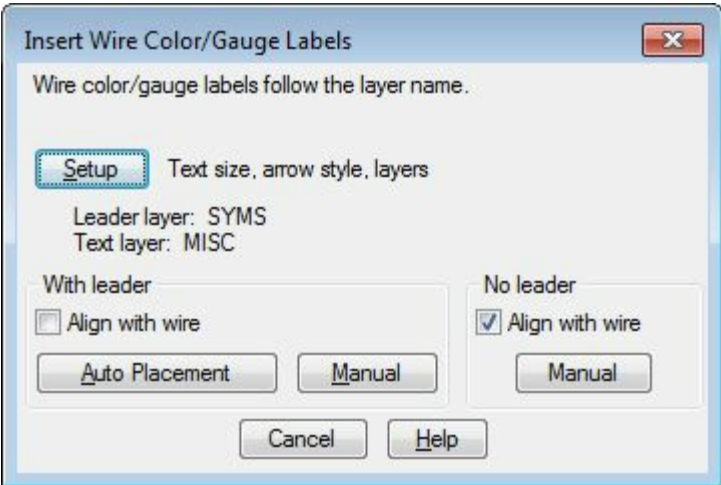

Figure-35. Insert Wire Color or Gauge Labels dialog box
- Click on the **Wire Color/Gauge Labels** tool from the **Wire Number Leader** drop-down in the **Ribbon**. The **Insert Wire Color/Gauge Labels** dialog box will be displayed as shown in Figure-35.